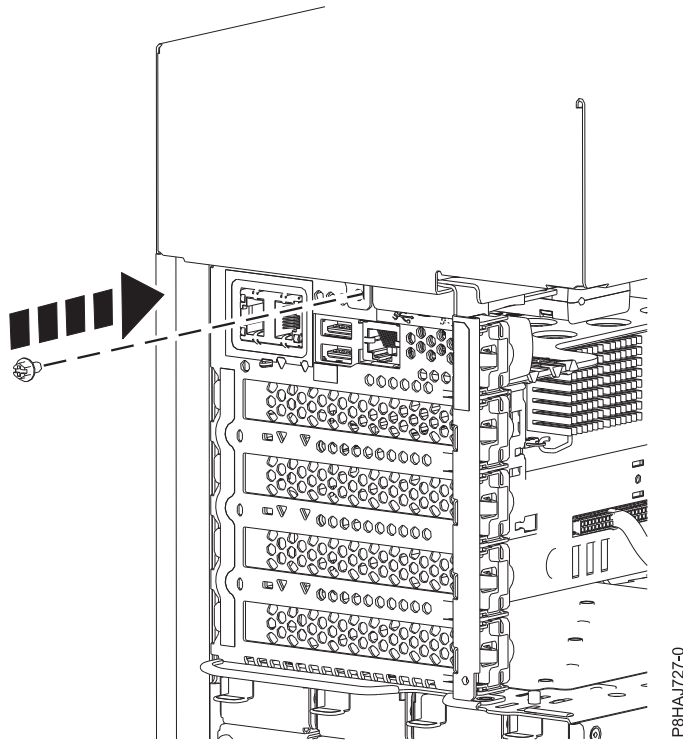

Figure 40. Installing the 8286-41A side cover screw
5. Install the side cover rear screw with a Phillips screwdriver as shown in Figure 40 on page 54.